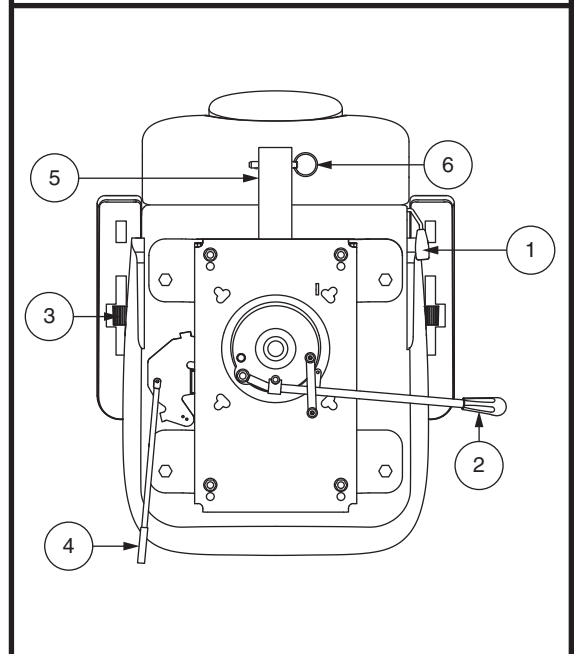

Figure 12. Seat Adjustments – Style A
1. Depending on your seat type, either pull upward or push forward on the seat rotation lever to disengage the seat. See figure 12.
If your scooter is equipped with a reclining seatback, you can adjust the seatback angle with the seatback adjustment lever. See figure 12.
1. Move the seat sliding lever (located at the lower left side of the seat) outward. **See figure 12.**
Armrest angle of your scooter can be adjusted upwards or downwards by turning the adjustment dial. **See figure 12.**
The rear-mounted accessory bracket allows you to attach a personal accessory such as a basket, walker holder, or oxygen tank to the back of your scooter. Use the detent pin to securely mount your item to the accessory bracket. **See figure 12.** See your authorized dealer for details.